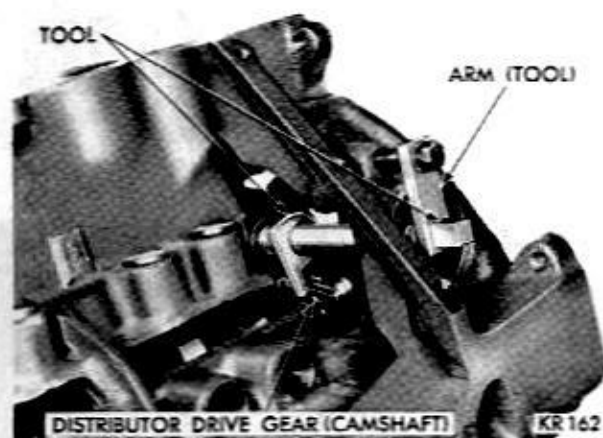

Fig. 21—Camshaft Holding Tool C-3509
side of cam gear and attach tool with distributor retainer plate bolt (Fig. 21).
(1) Lubricate camshaft lobes and camshaft bearing journals and insert camshaft to within 2 inches of its final position in cylinder block.
(2) Modify Tool C-3509 by grinding off index lug holding the upper arm on the tool and rotate arm 180 degrees.
(3) Install Tool C-3509 in place of distributor drive gear and shaft, as shown in Figure 21.
(4) Hold tool in position with distributor lock plate screw. This tool will restrict camshaft from being pushed in too far and prevent knocking out the Welch plug in the rear of cylinder block.